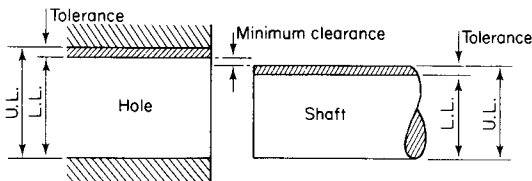

Fig. 4.13 A clearance fit between a hole and shaft. The limits on the hole and the shaft ensure that the shaft is always smaller than the hole
1. *Clearance fit* which occurs when the shaft is smaller than the hole (Fig. 4.13).